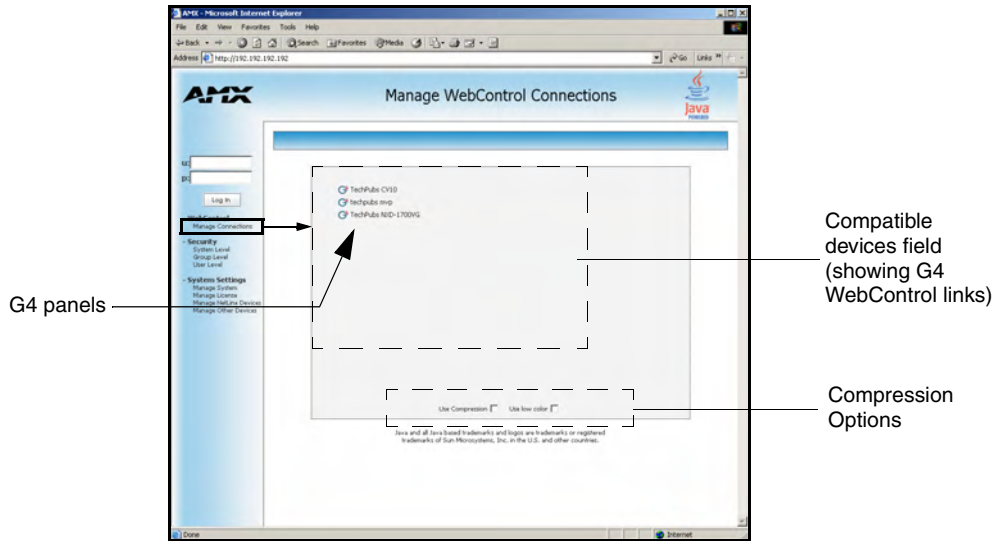

FIG. 89 Manage WebControl Connections page (populated with compatible panels)
7. This Manage WebControl Connections page (FIG. 89) is accessed by clicking on the **Manage connections** link (*within the Web Control section within the Navigation frame*). Once activated, this page displays links to G4 panels running the latest G4 Web Control feature (*previously setup and activated on the panel*).